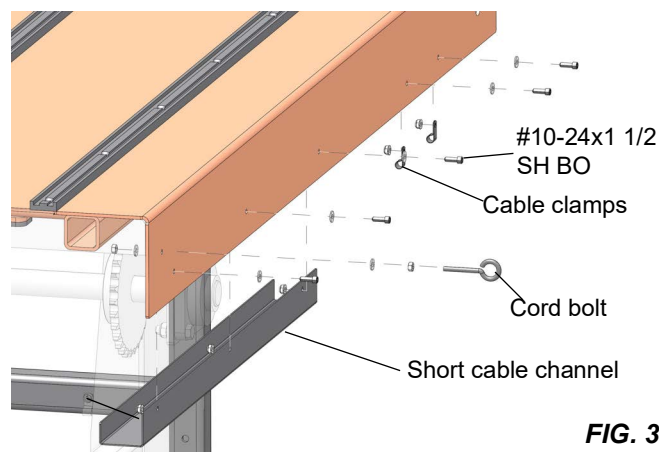

FIG. 3-5
8. Install the emergency cord bolt on the drive side in the same manner as shown in FIG. 3-5.
- 3). Assemble the cable channel and cord bolt as shown in FIG. 3-5.